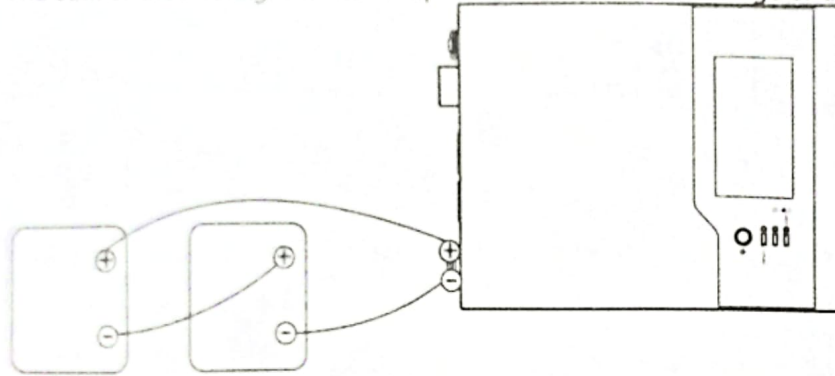

Fig 3
2) **Multiple batteries in series connection(Refer to Fig. 3):** All batteries must be equal in voltage and amp hour capacity. The sum of their voltages must be equal to the nominal DC Voltage of the unit.